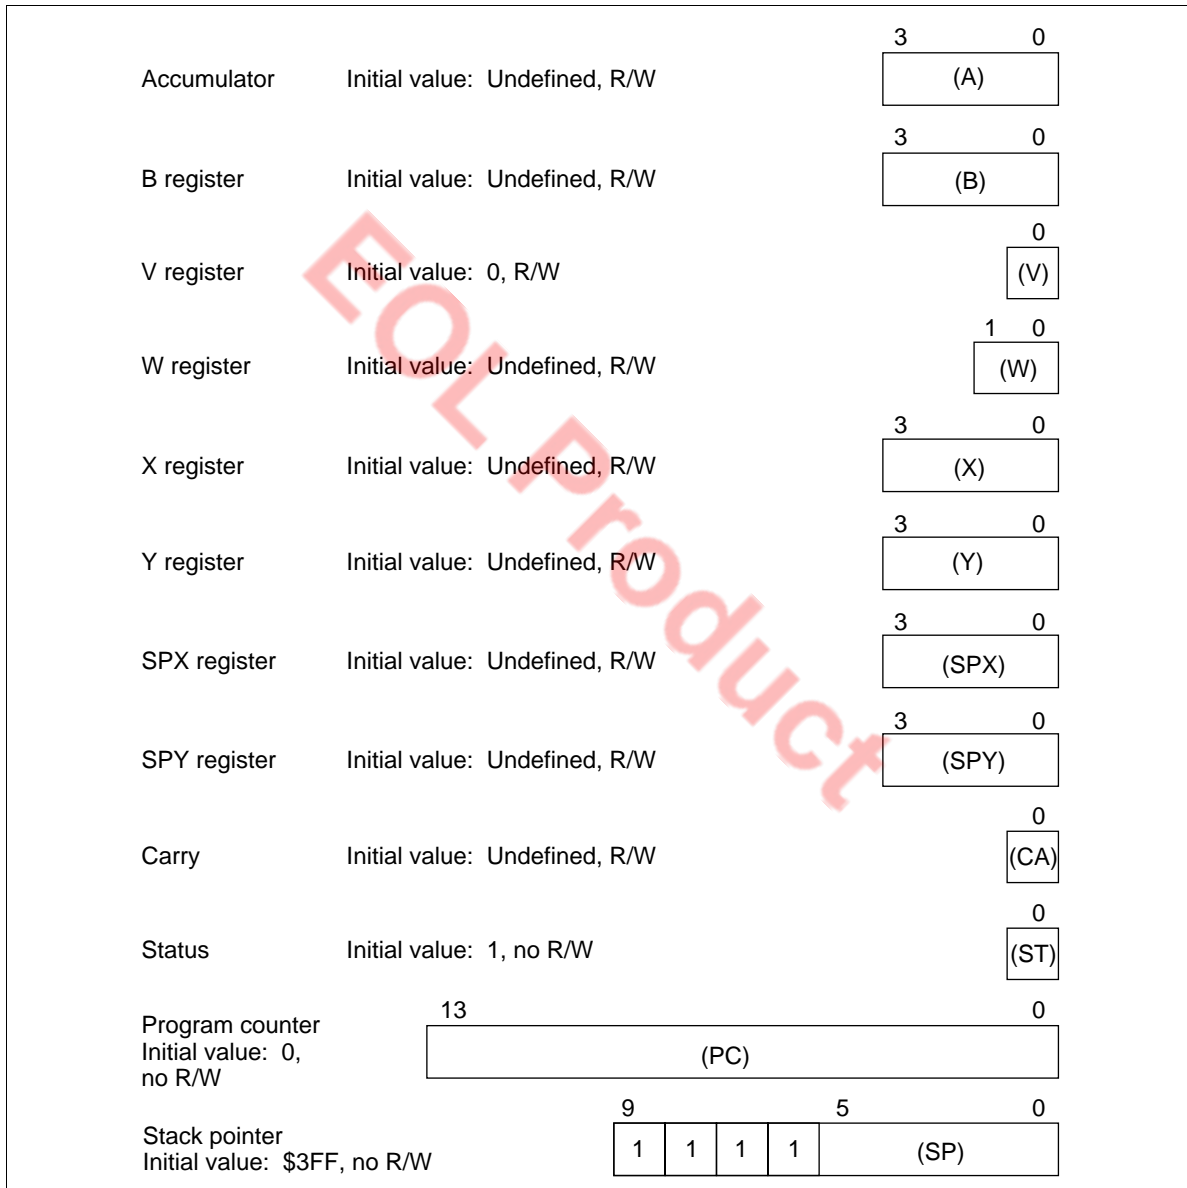

**Figure 4 Configuration of Memory Registers, Stack Area, and Stack Position**
**Data Area (\$040 to \$2CF, \$100 to \$2CF; Bank 0/1):** The 16 digits of \$040 through \$04F are called memory registers (MR) and are accessible by the LAMR and XMRA instructions (figure 4). 464 digits of \$100 through \$2CF are selected as bank 0 or 1 depending on the value of the V register.
**Stack Area (\$3C0 to \$3FF):** Locations \$3C0 through \$3FF are reserved for LIFO stacks to save the contents of the program counter (PC), status flag (ST), and carry flag (CA) when subroutine calls (CAL or CALL instruction) and interrupts are processed. This area can be used as a 16-level nesting stack in which one level requires 4 digits.
Figure 4 shows the save condition. The program counter is restored by the RTN and RTNI instructions. The status and carry flags are restored only by the RTNI instruction. This area, when not used as a stack, is available as a data area.